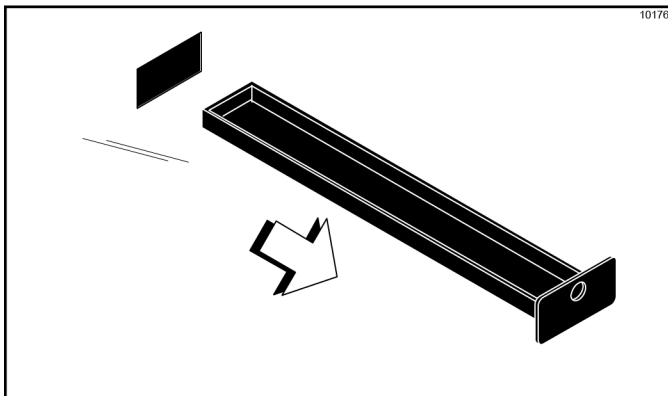

Figure 6-15
- Slide the two drip pans into the holes in the left and rear panels. (See Figure 6-15.)